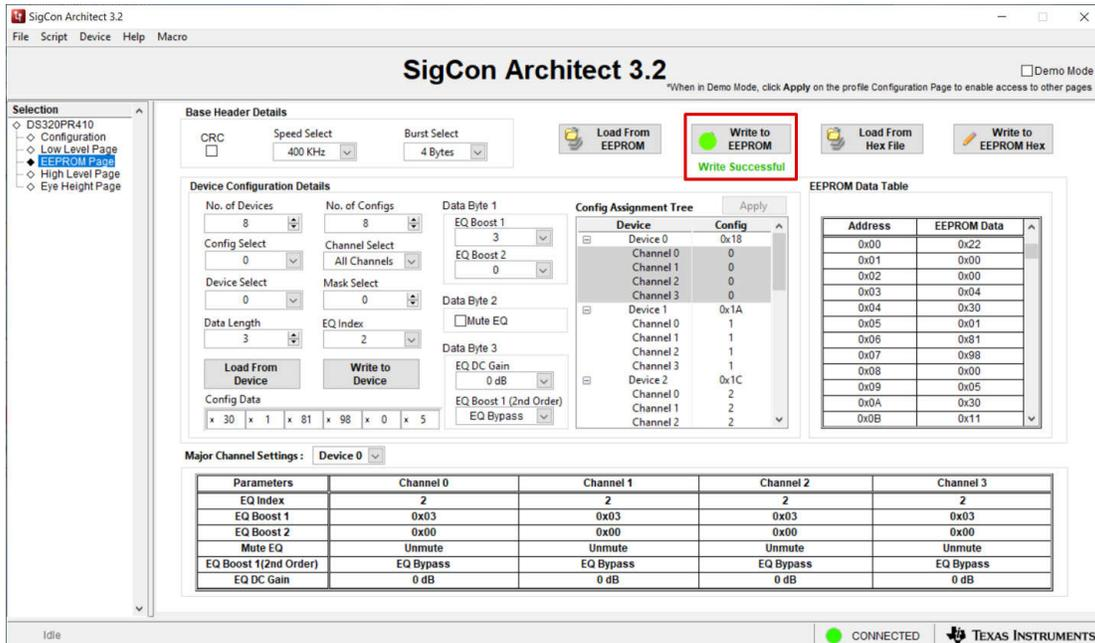

Figure 4-5. EEPROM Page: Write to EEPROM
- After all devices have been configured, click the *Write to EEPROM* button to write the external EEPROM with the new settings. The button indicator turns green when the write is completed, as shown in Figure 4-5.